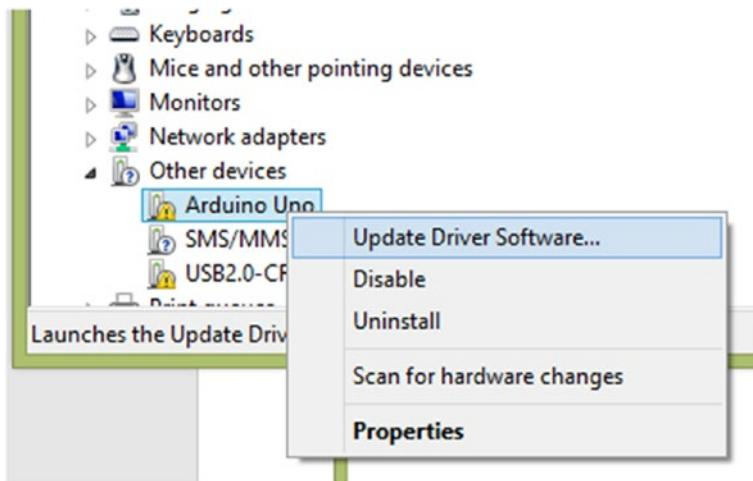

Figure 3-7. Updating the driver software
4. Right-click the node Arduino Uno, and from the shortcut menu, choose Update Driver Software (Figure 3-7).